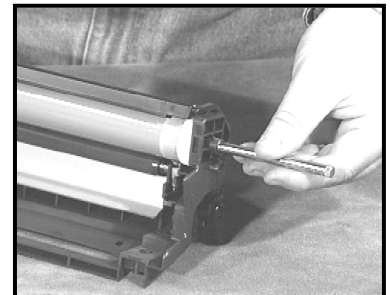

Figure 7
1. Use a small drive punch and hammer to gently drive the OPC axle rod (the end with the white lock ring (fig.7)) 1-2" into the end of the cartridge. Next, grasp the rod that extends from the opposite end of the cartridge and gently twist and pull to remove it from the OPC.